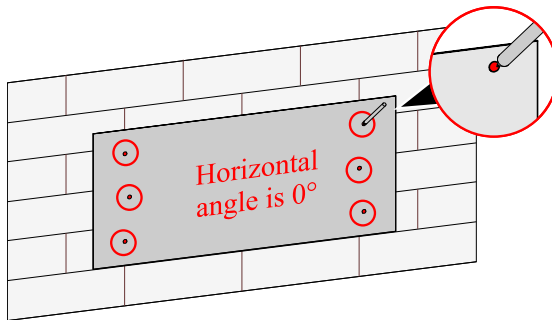

Figure3-13 Mark the installation holes
2. Mark the installation holes, as shown in Figure3-13.